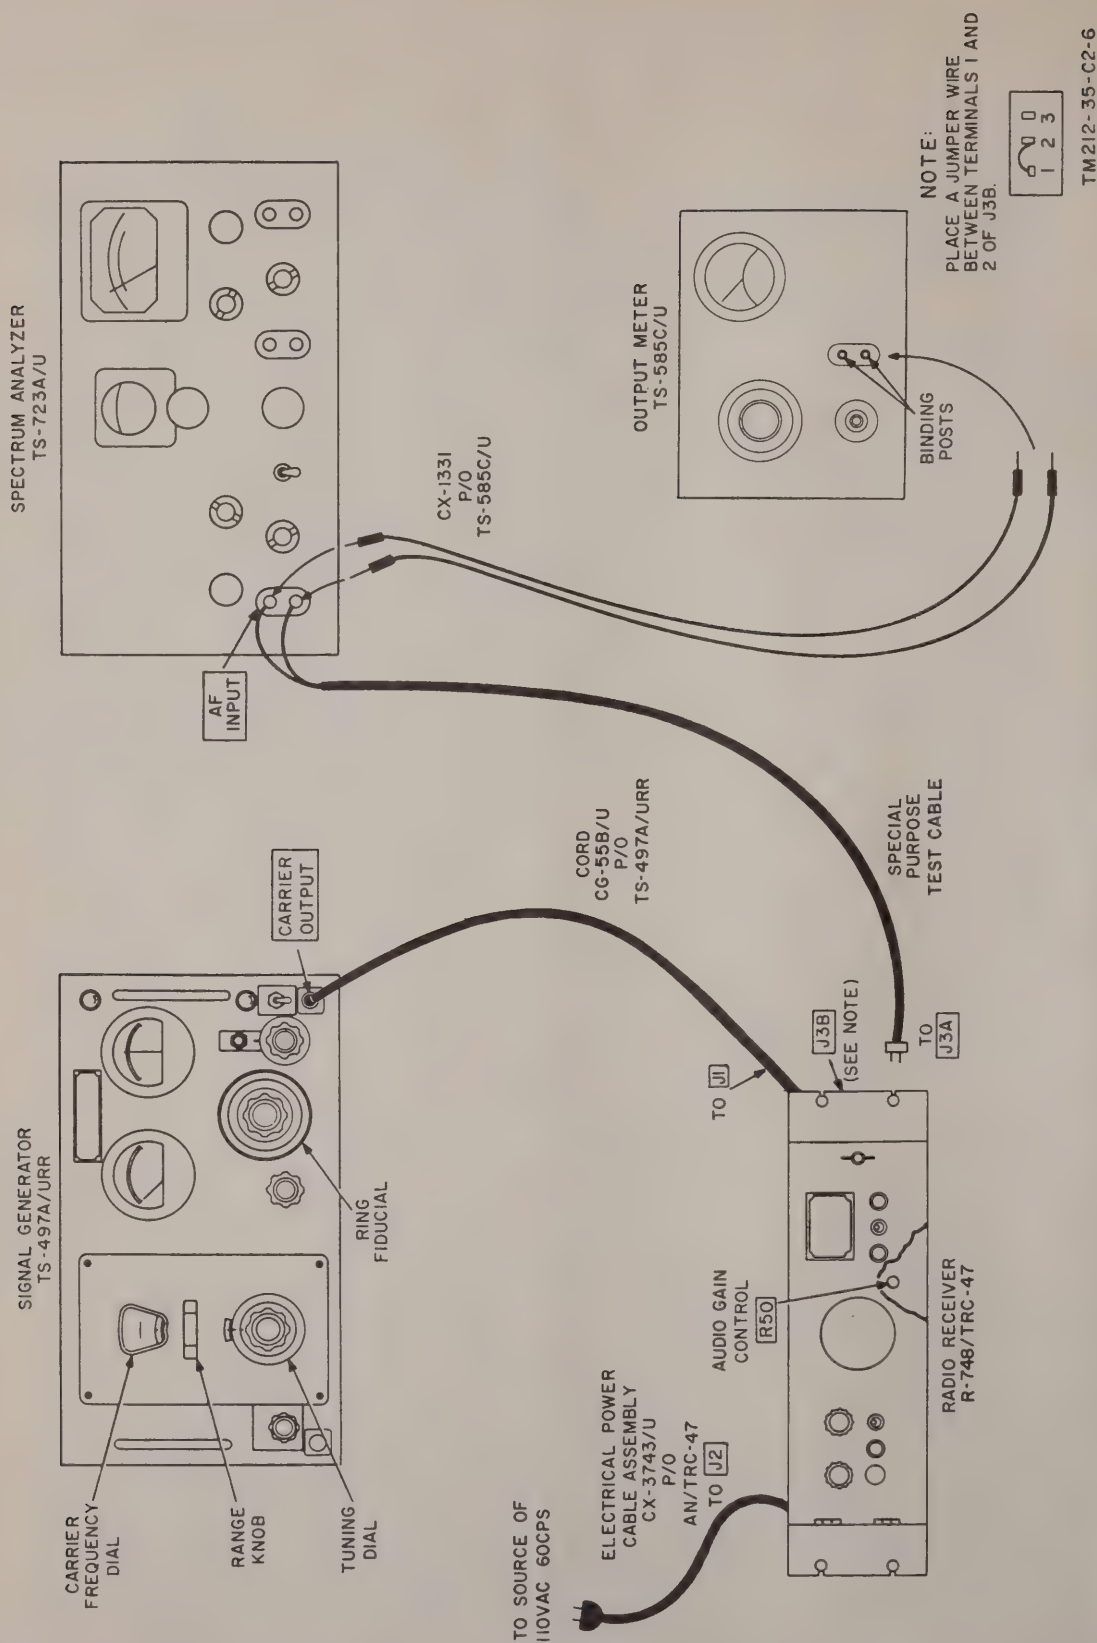

Figure 48.6. (Added) Receiver audio and AVC tests.
b. *Test Connections and Conditions.* Connect the equipment as shown in figure 48.6. Do not turn the TS-723A/U on until instructed to do so in test procedure.